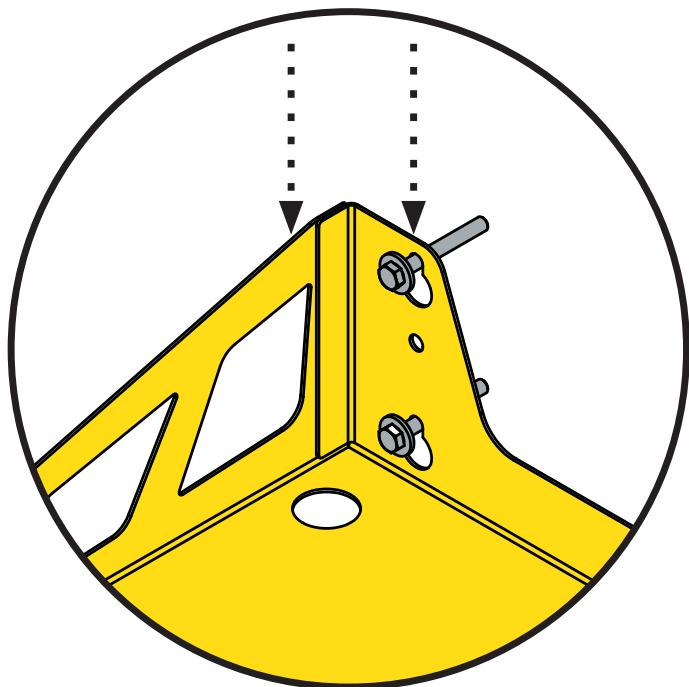

FIG. 7
7 Slide the Wall Bracket (F) down so that the fastener is snugly inside the smaller section of each keyhole [FIG 7].